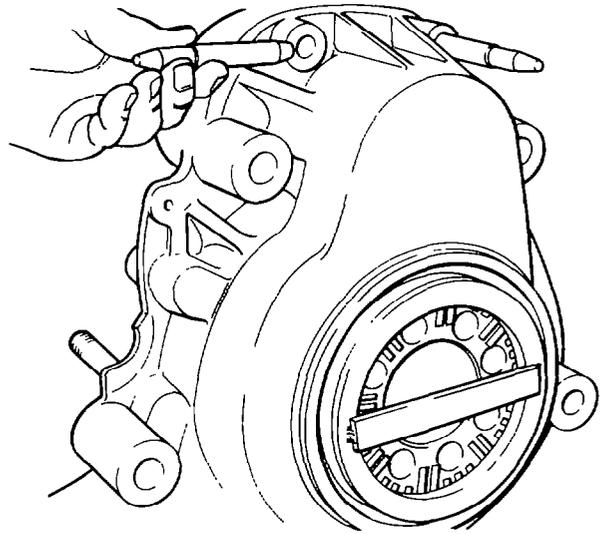

Figure 47 Removing the Wheel Hub Casing
- e. Insert Special Tool No. 5 (see Fig 47) and remove the retaining nuts and bolts from the rim of the wheel hub casing and remove the outer casing.